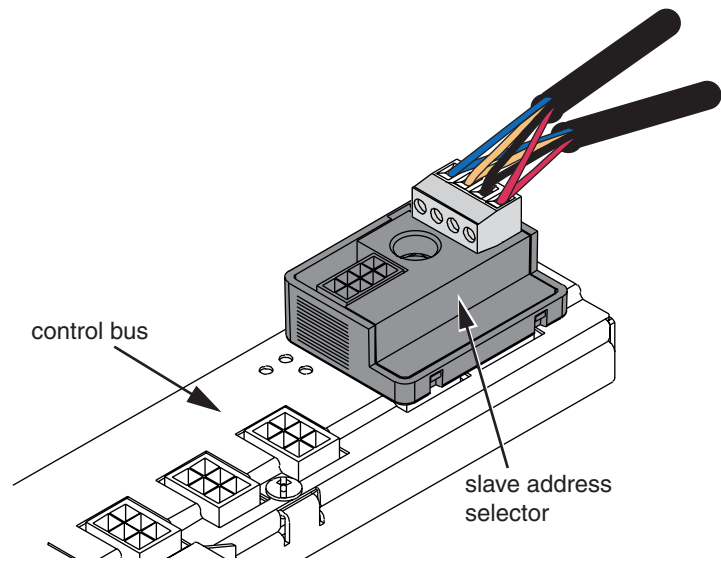

Figure 6: Slave address selector on the left control bus
- Facing the first slave panelboard, connect the slave address selector to the left control bus's vertical bus connectors (see Figure 6).